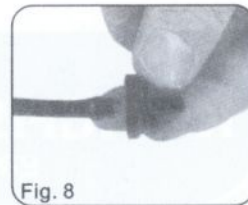

Fig. 8
3. To ensure the fitting does not blow off under water pressure make sure the pipe is fully pushed on to the fitting. See Fig. 8